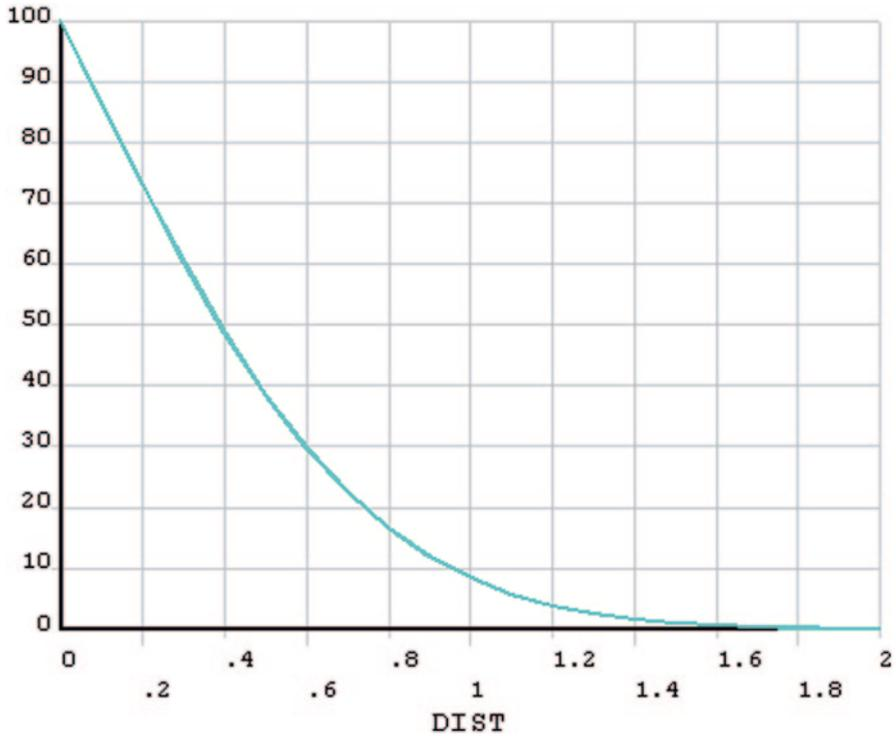

Fig. 5.31 Temperature variation line plot along the path Y025 at $t=5$
- Observe the temperature variation along the path **y025** as it appears in the *Graphics Window*, as shown in Fig. 5.31.